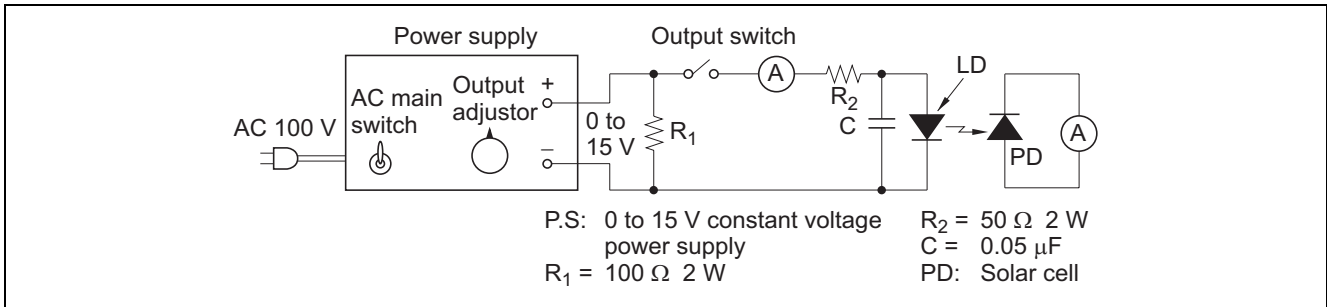

Figure 2 Simple Drive Circuit (Example)
(2) Operating laser diodes
- Before connecting a laser diode to the power supply in the ON-state as shown in figure 2, set the output level to the minimum. Also, before disconnecting a laser diode from the power supply, set the output voltage to the minimum. After disconnecting, turn off the main switch.